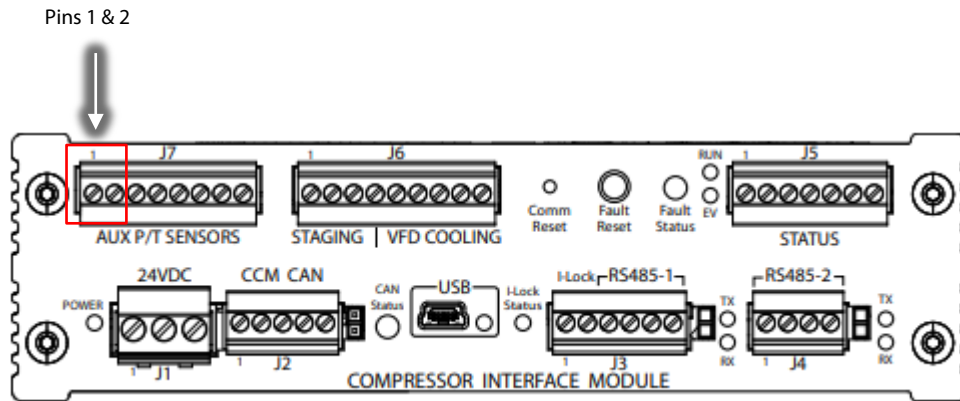

Figure 5 – CIM Interface for Temperature Sensor
7. Install the temperature sensor wire leads into the CIM at terminals 1&2 of the J7 connector, ensuring the connector fasteners are tight. Refer to Figure 5 – CIM Interface for Temperature Sensor.